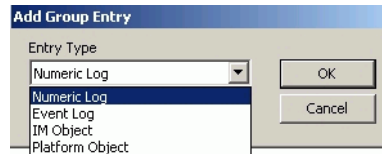

Figure 57. Add Archive Group Dialog
2. Use this dialog to select an entry type, Figure 57, click **OK**. The options are described in Table 7.